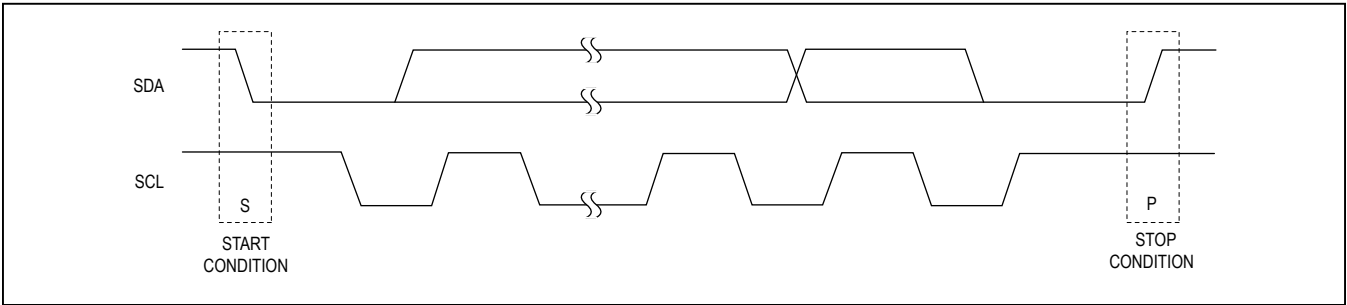

Figure 3. START and STOP Conditions
Each transmission consists of a START (S) condition (Figure 3) sent by a master, followed by the MAX7360 7-bit slave address plus R/W bit, a register address byte, one or more data bytes, and finally, a STOP (P) condition.